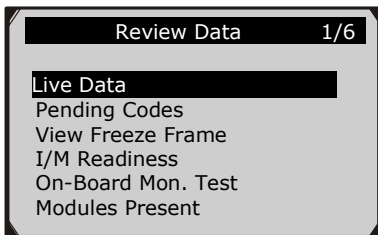

Figure 4.1
- 2) Use the **UP/DOWN** scroll button to select the desired item from **Review Data** menu, and press the **OK** button. (Figure 4.1)